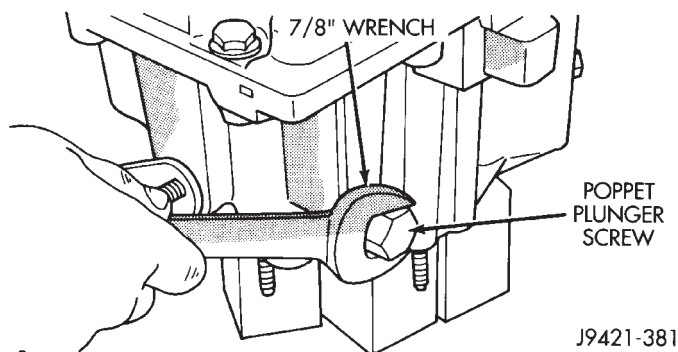

Fig. 77 Poppet Plunger Screw Installation
(34) Install new O-ring on poppet plunger screw. Then install screw in front case (Fig. 77). Tighten screw to 16–24 N·m (12–18 ft. lbs.) torque.